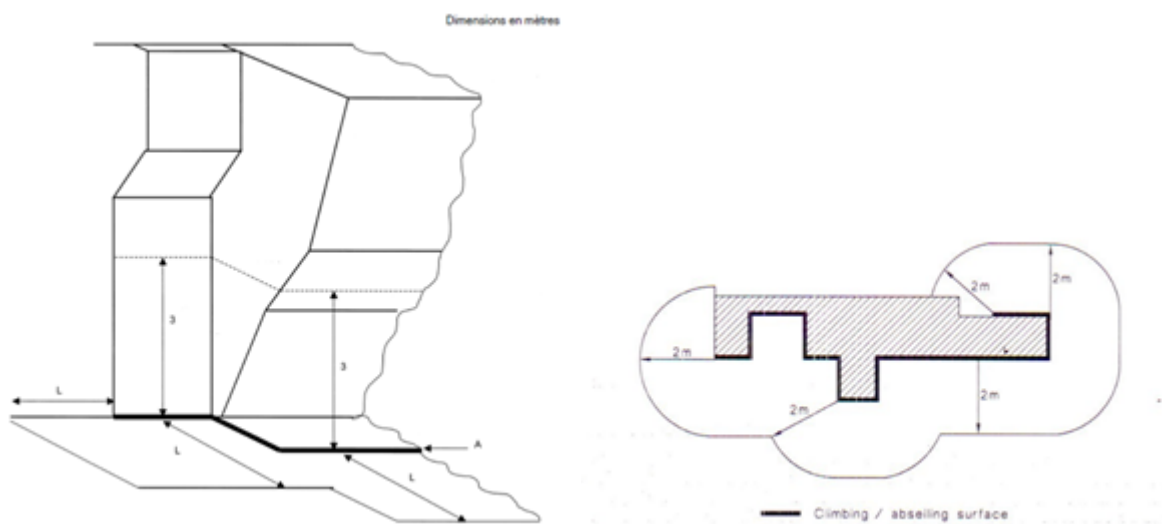

Fig. 4 Example of the impact areas at the base of the rope climbing wall, a) NF P90-312 [4], and b) AS2319.1-2009 [5].
1. Impact area. Since the mat in the related standards is only designed to limit the injuries in the event of a fall from a height, corresponding to the first anchor point [4]. An example of the French and Australian standard impact safety zones is shown below in Fig. 4.